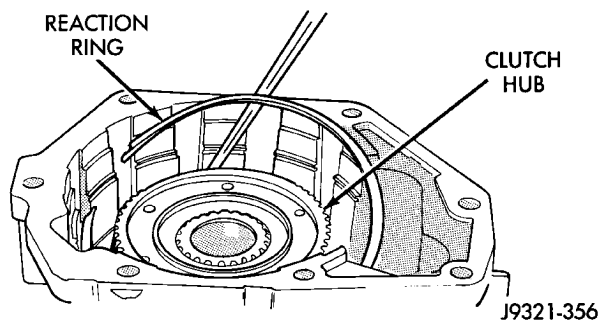

Fig. 245 Overdrive Clutch Reaction Ring Installation
(1) Install overdrive clutch reaction ring first. Reaction ring is flat with notched ends (Fig. 245).